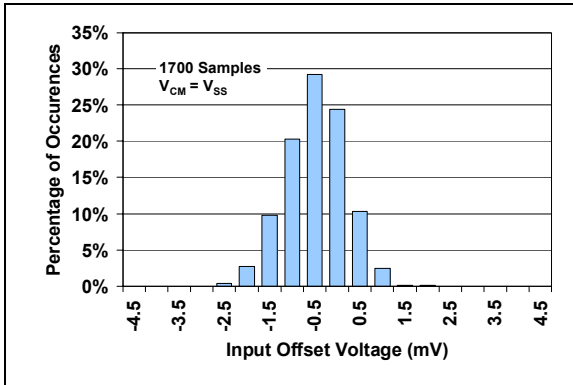

**FIGURE 1-1:** AC and DC Test Circuit for Most Specifications.
**Electrical Characteristics:** Unless otherwise indicated,  $V_{DD} = +1.4V$  to  $+6.0V$ ,  $V_{SS} = GND$ ,  $T_A = +25^{\circ}C$ ,  $V_{CM} = V_{DD}/2$ ,  $V_{OUT} \approx V_{DD}/2$ ,  $V_L = V_{DD}/2$  and  $R_L = 1 M\Omega$  to  $V_L$ . (Refer to Figure 1-1).
**Electrical Characteristics:** Unless otherwise indicated,  $T_A = +25^\circ\text{C}$ ,  $V_{DD} = +1.4\text{V}$  to  $+6.0\text{V}$ ,  $V_{SS} = \text{GND}$ ,  $V_{CM} = V_{DD}/2$ ,  $V_{OUT} \approx V_{DD}/2$ ,  $V_L = V_{DD}/2$ ,  $R_L = 1\text{ M}\Omega$  to  $V_L$  and  $C_L = 60\text{ pF}$ . (Refer to Figure 1-1).
The circuit used for most DC and AC tests is shown in Figure 1-1. This circuit can independently set  $V_{CM}$  and  $V_{OUT}$  (see Equation 1-1). Note that  $V_{CM}$  is not the circuit's Common Mode voltage ( $(V_P + V_M)/2$ ), and that  $V_{OST}$  includes  $V_{OS}$  plus the effects (on the input offset error,  $V_{OST}$ ) of the temperature, CMRR, PSRR and  $A_{OL}$ .